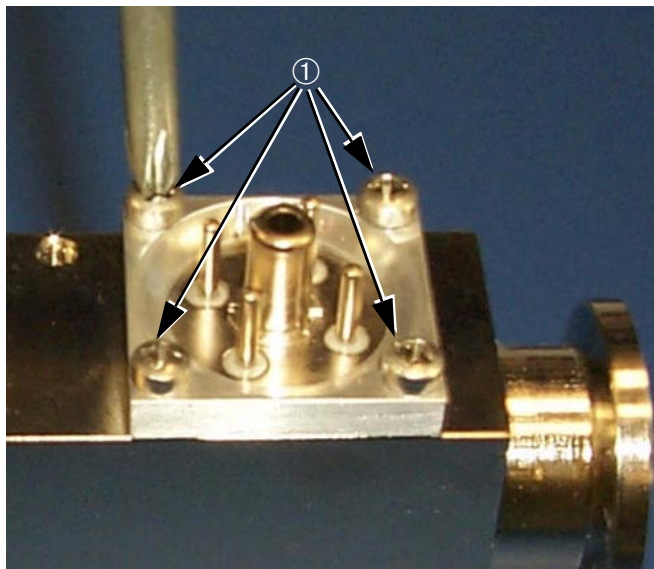

Figure 5-9 Button TC Assembly
11. Remove the four (4) Phillips-head screws ① that hold the button TC header (Figure 5-9).
5. Remove the four (4) Phillips-head screws that secure the ion source header (Figure 5-9 on page 5-9).